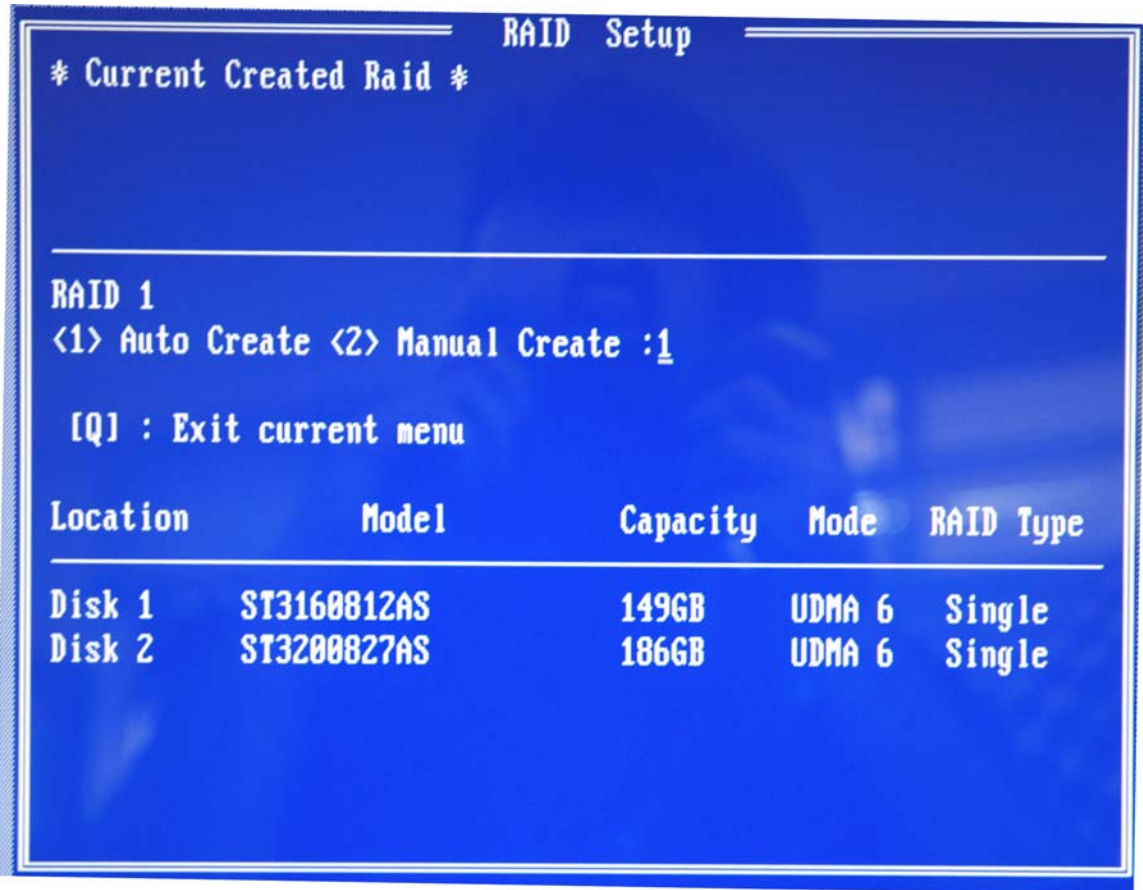

Figure E-5: Select “Auto”
**Step 3:** To setup the RAID, press "R." The RAID setup screen will appear (Figure E-5).
**Step 4:** Click "A" to setup the RAID (Figure E-5).